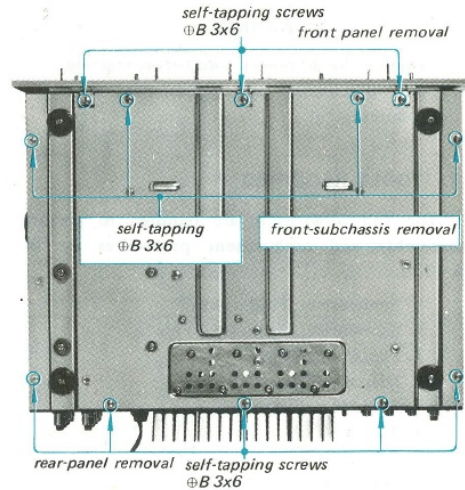
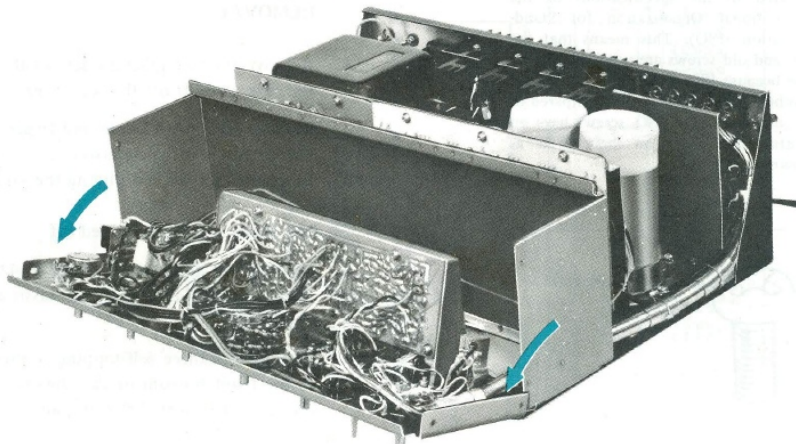
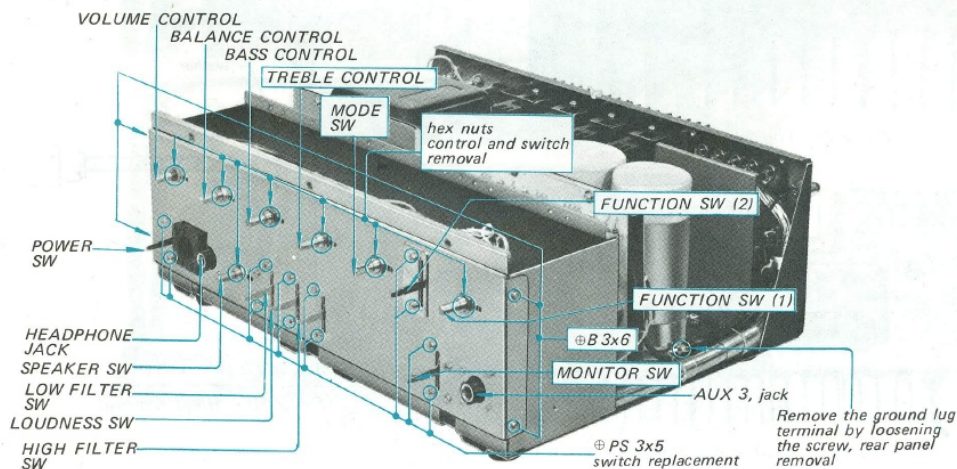
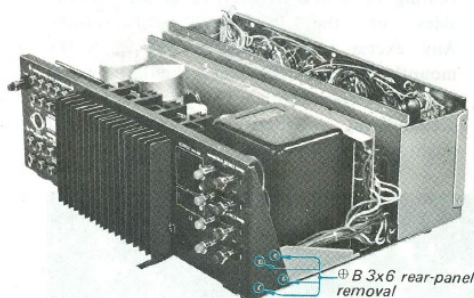

Fig. 2-3 Bottom view
Fig. 2-4 Front subchassis removal
Fig. 2-5 Control and switch replacement
Fig. 2-6 Rear panel removal
4. Remove the three self-tapping screws (+B 3x6) at the front bottom of the chassis as shown in Fig. 2-3. This frees the front panel.
2. Remove the two screws ($\oplus B 3 \times 6$) at each side of the chassis (see Fig. 2-5) and four self-tapping screws ($\oplus B 3 \times 6$) at the front bottom of the chassis as shown in Fig. 2-3. This frees front subchassis as shown in Fig. 2-4.
1. Remove the two screws (\oplus PS 3x5) securing switches to the front subchassis as shown in Fig. 2-5.
1. Remove the hex nuts that secure the switches or controls to the front subchassis as shown in Fig. 2-5.
2. Remove the four screws (\oplus B 3x6) at each side of the chassis (see Fig. 2-6) and five self-tapping screws (\oplus B 3x6) at the rear bottom of the chassis as shown in Fig. 2-3.
4. Remove the ground lug terminal by loosening the screw securing the electrolytic capacitor (C923) bracket to the chassis as shown in Fig. 2-5.